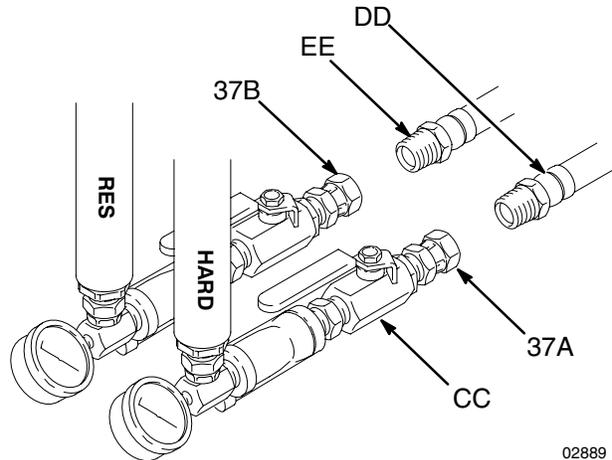

Fig. 6
1. Connect the resin supply hose (EE) to the 3/4 npt swivel inlet (37B) for the resin displacement pump. See Fig. 6.
2. Connect the hardener supply hose (DD) to the 3/4 npt swivel inlet (37A) for the hardener displacement pump. See Fig. 6.